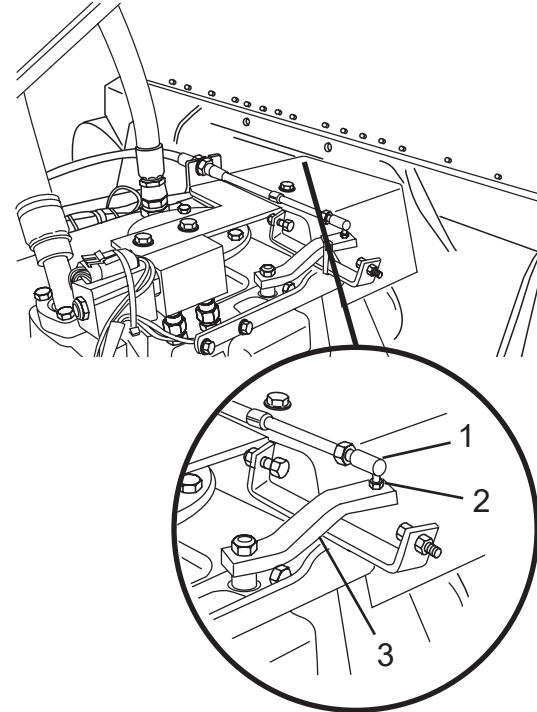

Figure 35
1. Pull back and hold the head (Figure 35, Item 1) of the control cable, and lift the end of the cable off the pivot (Figure 35, Item 2) to disconnect the control cable from the pump control lever (Figure 35, Item 3).
2. Move the pump control lever (Figure 35, Item 3) as required to start the drum rotation in the charge or discharge direction.